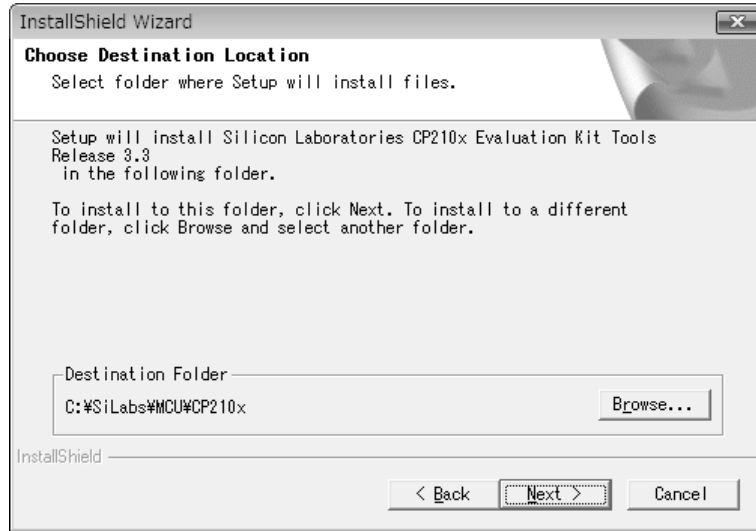

Fig. 55 Choose Destination Location
(4) The "Choose Destination Location" screen shown in Fig.55 appears. **C:\SiLabs\MCU\CP210x** is selected by default.